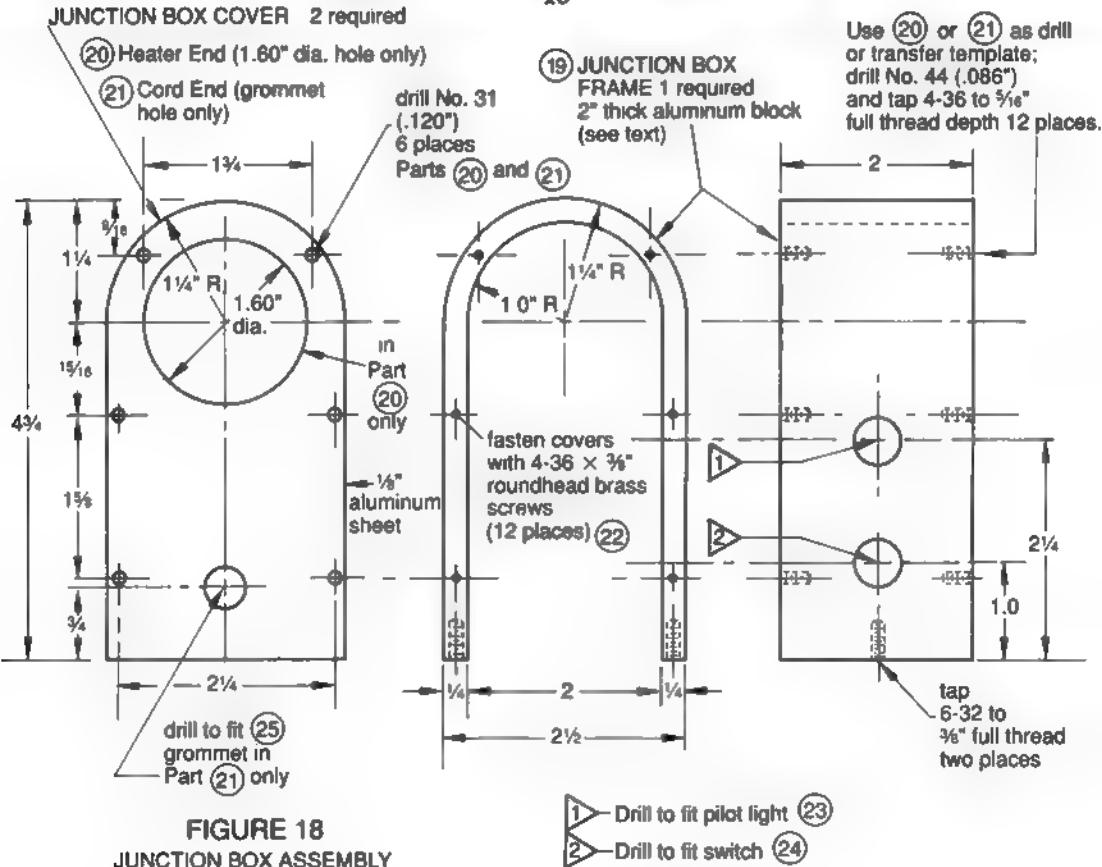

FIGURE 18
Details of the electrical junction box are shown in **Figure 18** and **Photo 19**. The J-box frame was band-sawn from a 2" thick block of aluminum scrap, and finished on the narrow belt grinder. Holes for the pilot light (23) and the on-off switch (24) are drilled in the frame. I used a red pilot light which is on whenever the thermoswitch feeds power to the heater.